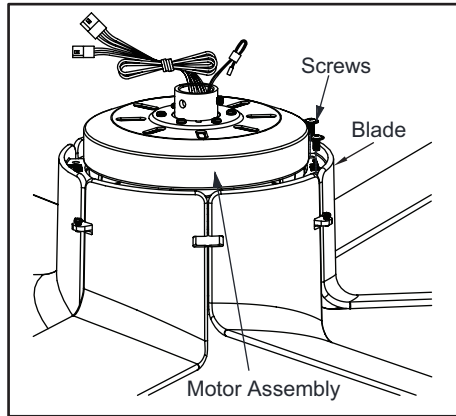

Figure 6
3. Flip the fan right side up as shown. Tighten the blades to the flywheel by installing the screws to the side of flywheel. (Figure 6)
4. Make sure all the screws are firmly tightened. (Figure 6)